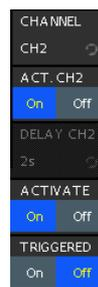

Figure 5-12: Sequencing menu
2. Select "SEQUENCE" softkey item to configure the sequencing settings. The R&S NGC100 displays the sequencing menu. See Figure 5-12.